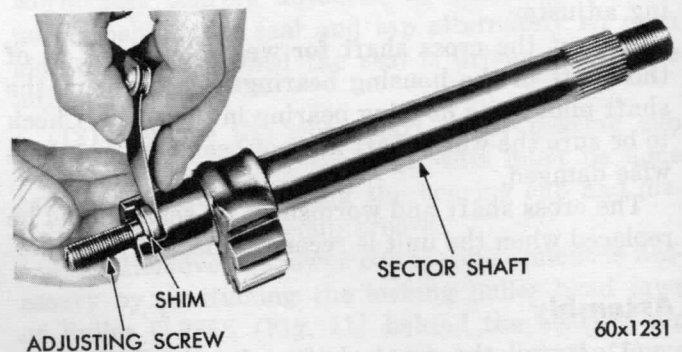

Fig. 15—Checking Cross Shaft Adjusting Screw End
(11) Thread the adjuster into the steering housing, and with C-3884 wrench and splined nut set, tighten the adjuster to 50 foot pounds while rotating the wormshaft. This is done to effectively seat the bearings.
(12) Loosen the adjuster so no bearing preload exists. Then, using C-3880 torque wrench, adjust wormshaft bearing preload to from 1½ to 6 inch pounds.
(13) After adjusting the preload, tighten the bearing adjuster lock nut, and then recheck to be sure the preload remains between 1½ and 6 inch pounds.
(14) Before installing cross shaft, pack the wormshaft cavities in the housing above and below the ball nut with steering gear grease. Use steering gear grease whenever possible, but if not available, a good grade of multi-purpose grease may be used. Do not use gear oil. When the gear is properly packed with steering gear grease, it will contain eleven fluid ounces of grease, and the level of the grease will be at the top of the worm.
(15) Slide the cross shaft adjusting screw and shim into slot in the end of shaft.
(16) Check the end clearance shown in Figure 15. The screw must be free to turn with no perceptible end play to .004 inch lose. Three different thickness shims are available to obtain the specified clearance.
(17) Start the cross shaft and adjuster screw into bearing in the housing cover. Then, using a screw driver through the hole in cover, turn the screw counter-clockwise to pull the shaft into the cover.
(18) Install the adjusting screw lock nut, but do not tighten at this time.
(19) Rotate the wormshaft to centralize the ball nut.